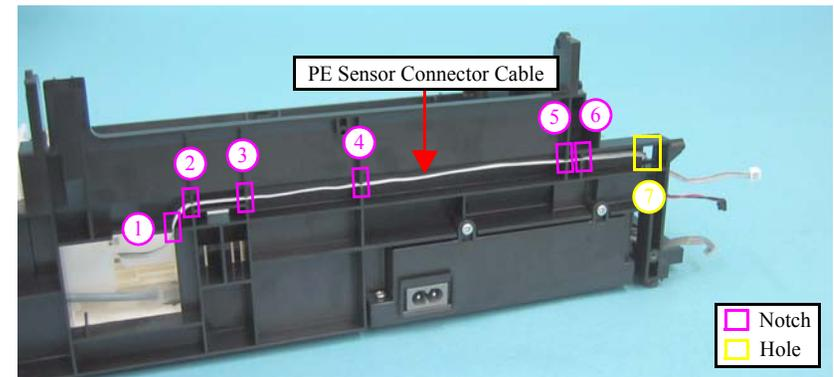

Figure 4-68. Releasing PE Sensor Cable
- Route the cable in the order given in Figure 4-68.